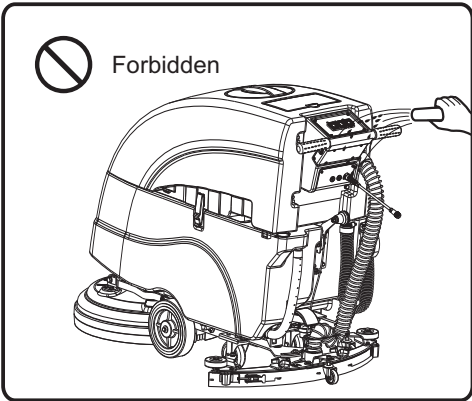

fig. 8
2. Water spills should be avoid when cleaning the machine itself. Electronic parts inside the control panel are sensitive to water spills and may cause damage in water ingress(fig. 8).